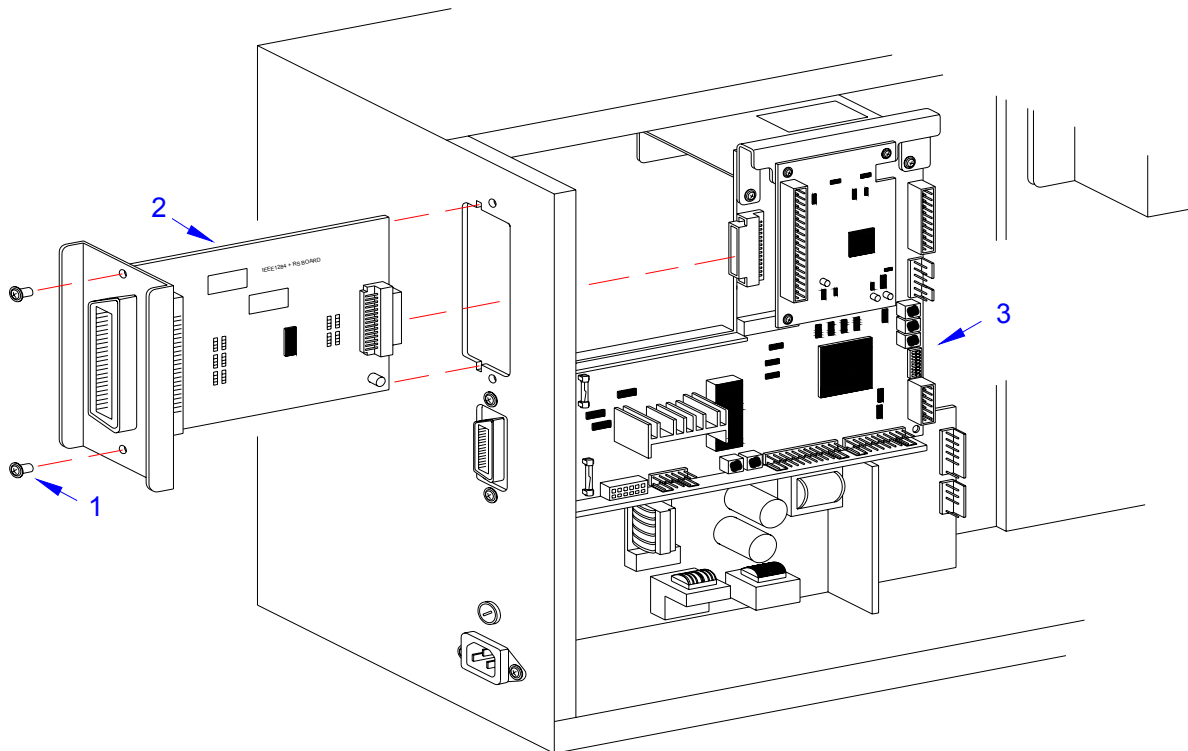

Figure 7-3, Interface Board Replacement
- 3 Remove two screws (1, Figure 7-3) securing interface board (2) on the exterior back side of printer.
- 4 Carefully withdraw interface board (2) from its connection with main circuit board (3).
- 5 Insert replacement interface board (2) through the housing slot to connect with main circuit board (3).
- 6 Secure interface board (2) to printer housing using two screws (1).